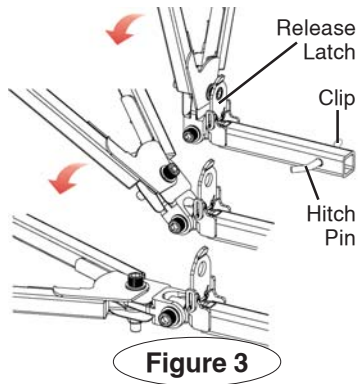

Figure 3
the folded position (Fig. 1), insert it into the motorhome's hitch receiver, and secure it with the Hitch Pin and Clip (Fig. 3).
5. Push the release latch (Fig. 3) forward, to bring both arms down to a horizontal position. Standing to one side, swing both arms away from you, aligning the outermost arm with the tabs on the quick-disconnect base (Fig. 4). Using the included Base Pin (Fig. 4), attach the arm and secure it with a linch pin or optional padlock. Now, swing the other arm to the opposite side and connect it in the same manner.